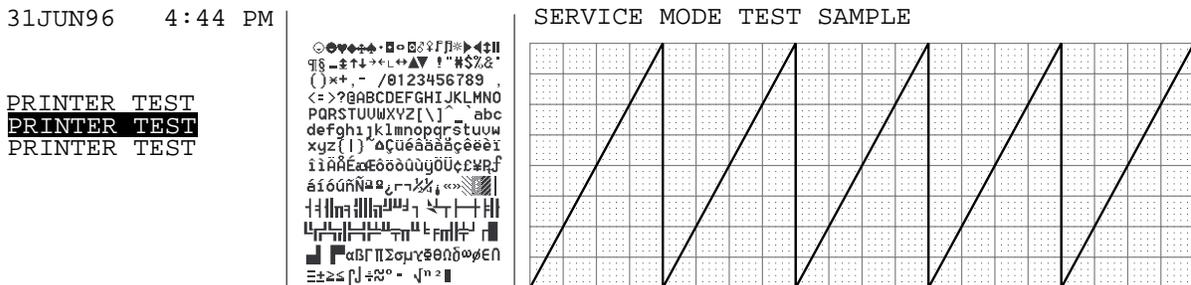

Figure 3-7: Waveform/Text Test Printout
- Press softkey #1, "WAVEFORM TEXT TEST". Verify that a list of ASCII characters and a sample waveform print as illustrated in Figure 3-7.